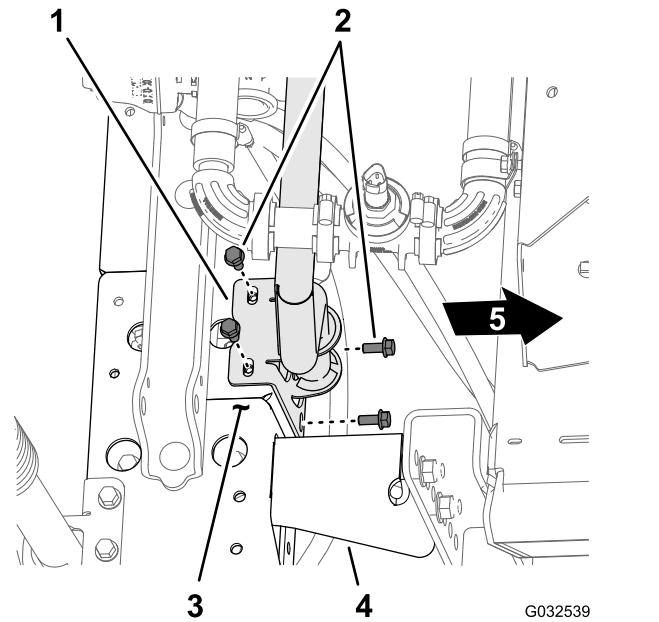

Figure 62
- Align the holes on the mount bracket of the valve mount to the holes on the truss frame of the center-boom section (Figure 62).
- Assemble the valve mount to the truss frame (Figure 62 and Figure 63) with 4 bolts (5/16 x 3/4 inch) and 4 flange locknuts (5/16 inch).